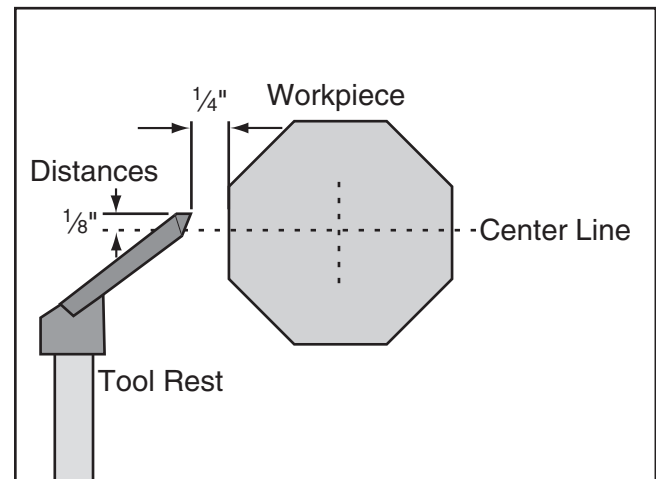

Figure 21. Tool rest position relative to workpiece.
2. Position the tool rest approximately $\frac{1}{4}$ " away from the workpiece and approximately $\frac{1}{8}$ " above the workpiece center line (see **Figure 21**).